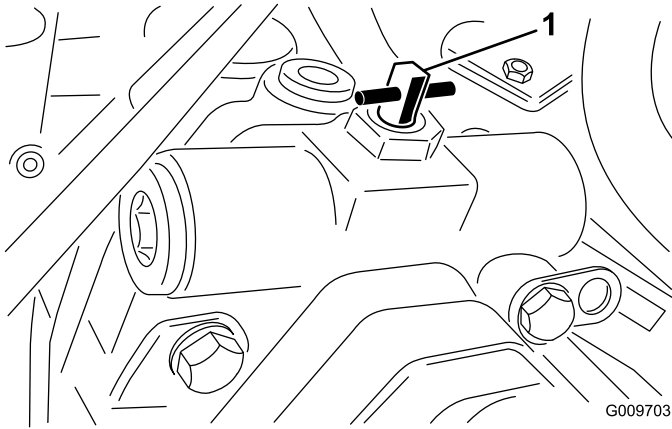

Figure 18
2. Rotate the bypass valve 90° (1/4 turn) in either direction to open and allow oil to bypass internally (Figure 18).